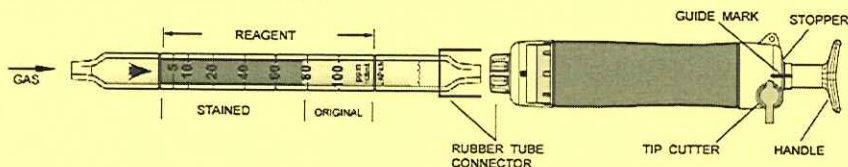

Fig.1
- ② Insert the detector tube into the aspirating pump securely as shown in Fig.1. (Arrow mark shall point to the pump.)
- ③ Align the guide marks on the shaft and stopper of the aspirating pump.
- ④ Pull the pump handle at a full stroke until it locks and wait for 1.5 minutes or until the completion of sampling is confirmed with the flow indicator of the pump. (See descriptions about the flow indicator in the instruction manual of the pump.)
- ⑤ On completion of sampling, read the scale at the maximum point of the stained layer.
- ⑥ When the concentration is below the scale range, 2 pump strokes can be used to determine concentrations of 2.5 to 50 ppm. Then multiply the reading value by 1/2.